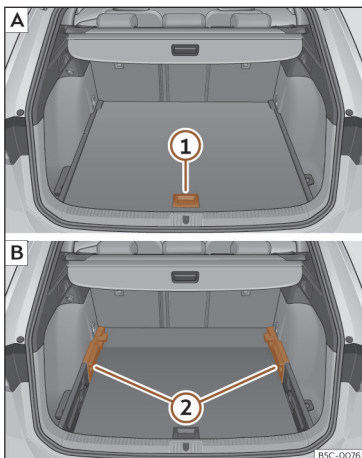

Fig. 179 Variable luggage compartment floor: **A** raised position; **B** lowered position.
- To move from the low position to the high position, lift the floor using the handle >>> **Fig. 179** ①, and pull it back until the front of the floor has fully passed the supports ②.
- Move the floor forward over the supports as far as the rear seat backrest and then lower the floor with the handle ①.
- To move from the high position to the low position, lift the floor using the handle >>> **Fig. 179** ①, and pull it back until the front of the floor has fully passed the supports ②.
- Now let the front part fall to the floor and slide the floor forwards as far as the rear seat backrest; lower the floor at the same time with the handle ①.
- Lift the variable floor in the high position using handle >>> **Fig. 179** ①, pull it up and push it towards the backrest of the rear seats until it folds along the hinge line and the movable part of the floor is resting on itself.